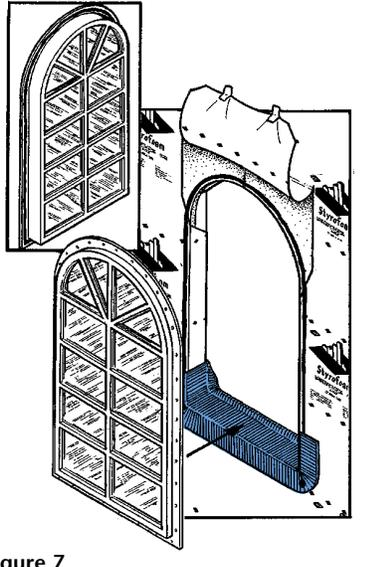

Figure 7
- a. Apply sealant at window jambs and head. Or back-caulk the window, applying sealant on the back side of the nailing flange (Figure 7).